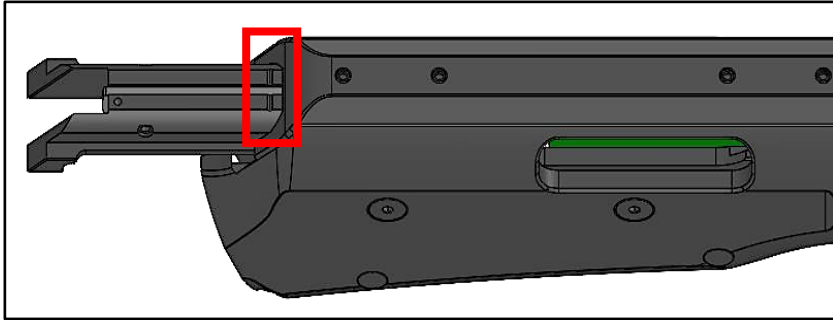

FIGURE 26
7. Ensure that the bolt is protruding out of the rear of the upper half assembly up to the notch in the bolt. FIGURE 26.